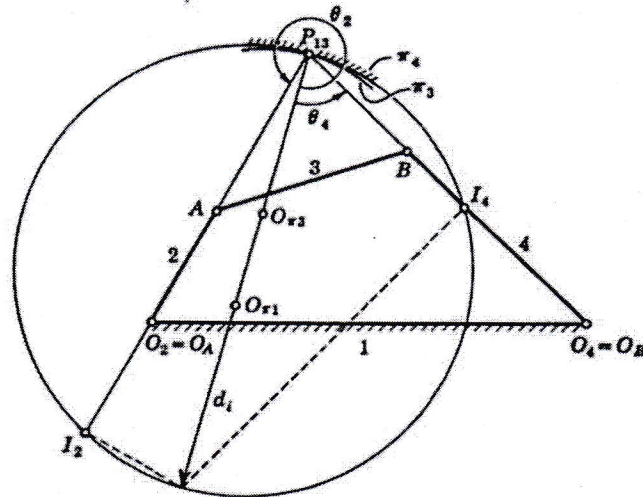

Figure 3
- 4.a) Determine the Polode curvatures for the coupler 3 of the four bar mechanism of the figure 3 shown below.